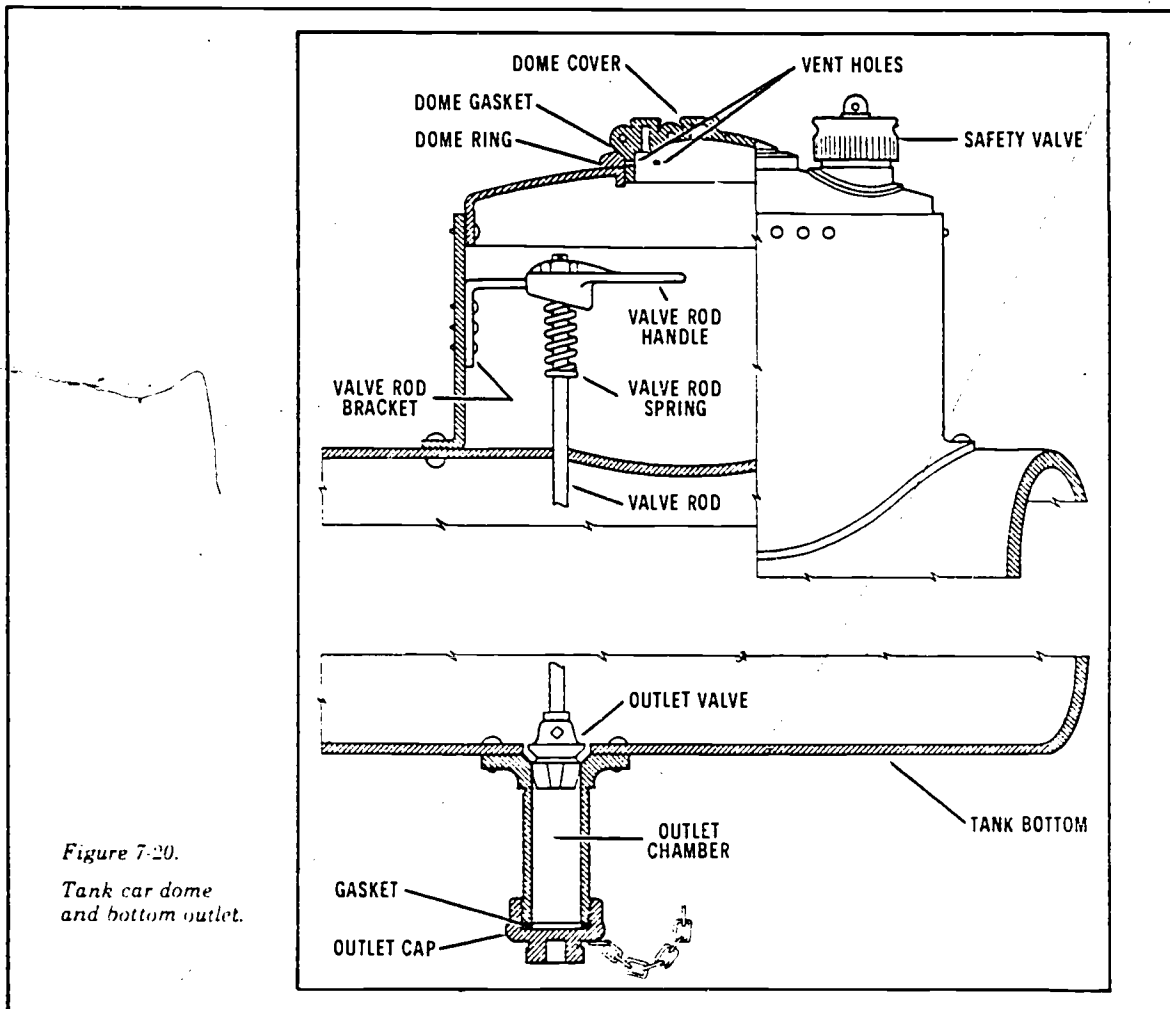

Figure 7-20.
■ **Dome.** Each tank car compartment has a dome (fig 7-20) to allow space for the product to expand as the temperature rises. The tank shell can thus be filled to the top. Each dome has a manhole through which the tank
outlet valve (fig 7-20) is controlled by a valve rod handle or valve rod handwheel. The outlets on tank cars used in the United States are 5 inches in diameter. Outlets on tank cars used overseas are generally 4 inches in diameter. All outlets have male threads. A tank car elbow assembly is used to adapt a pump suction line to the 5-inch outlet. A 4- by 5-inch adapter must be installed between the elbow assembly and the tank car 4-inch outlet.